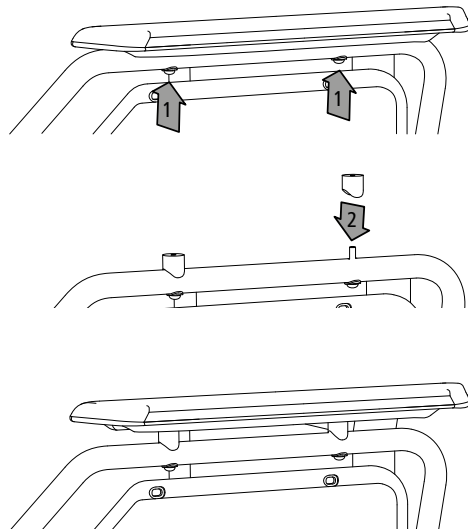

Fig. 36
1. Loosen the screws (1, Fig. 36) that secure the armrest to the frame
2. Then remove the armrest from the frame and place both height adapters on the drill holes (2, Fig. 36) for the armrest on the frame.